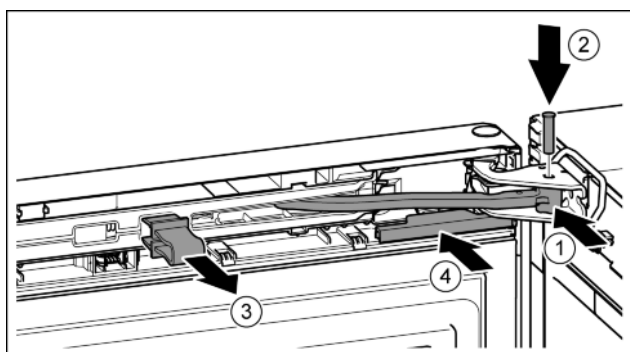

Fig. 25
- Turn the hinge in the bearing bracket. Fig. 25 (1)
- Insert the bolt in the bearing bracket and hinge. Make sure that the catch mechanism is sitting correctly in the groove. Fig. 25 (2)
- Remove the locking device. Fig. 25 (3)
- Slide on the cover. Fig. 25 (4)